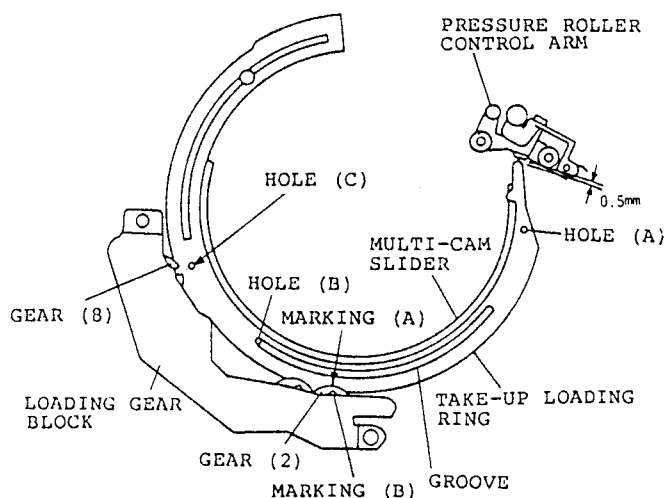
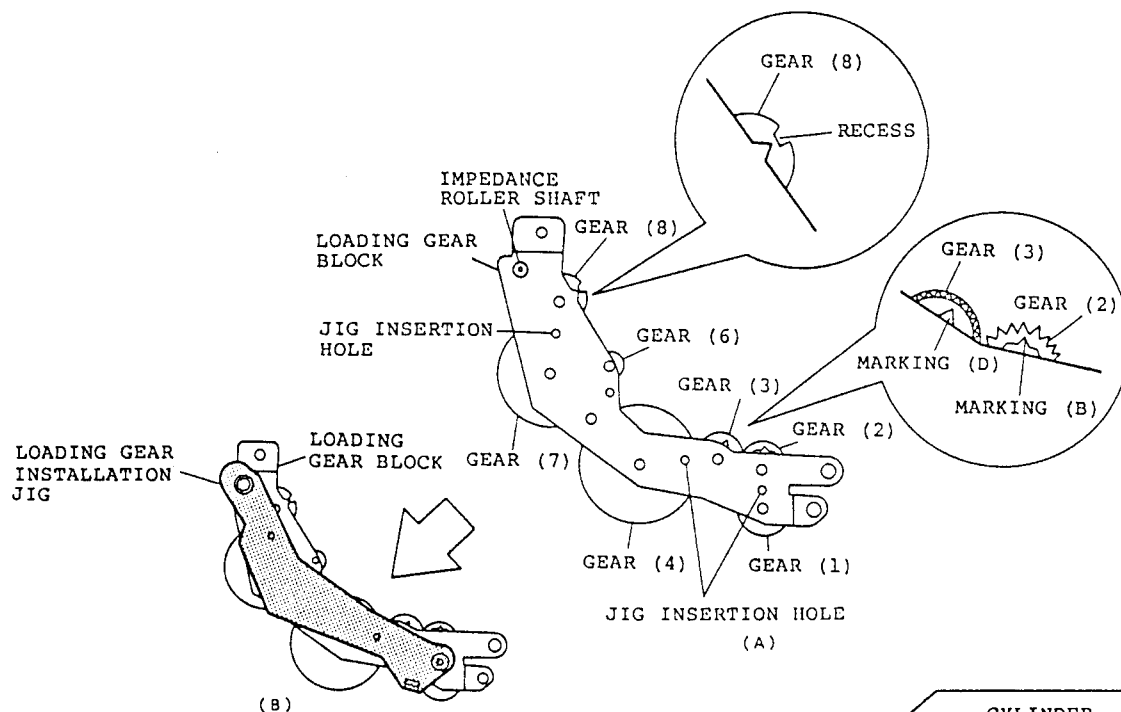

Fig. 3-1
Fig. 3-2
1. PHASE MATCHING OF TAKE-UP/SUPPLY LOADING RINGS AND LOADING GEAR BLOCK IN ASSEMBLY (Figs. 3-1, 3-2, 3-3)
- 1) Install the take-up loading ring so that the space between the right edge of the take-up loading ring and pressure roller control arm is 0.5mm. (See Fig. 3-1)
- 2) Align the right end of the groove in the take-up loading ring with hole (B) in the multi-cam slider.
- 3) Insert a pin into hole (A) and stick it into the chassis at right angles.
- 4) Set gear (2), gear (3) and gear (8) of the loading gear block as shown in Fig. 3-2 (A).
- 5) Attach the loading gear installation jig to the loading gear block in the state set in step 4) as shown in Fig. 3-2 (B).
- 6) Assemble the loading gear block with the jig attached in the chassis so that hole (C) in the take-up loading ring and the recess of gear (8) are aligned and marking (A) on the take-up loading ring and marking (B) on gear (2) are aligned. (See Fig. 3-1)